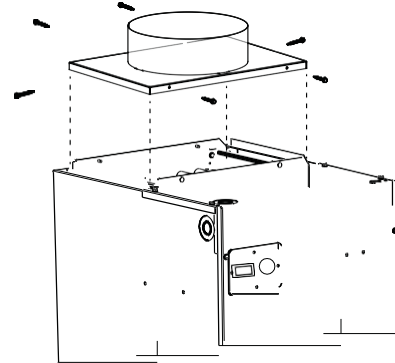

Fig. 3 – Typical Duct Transition Install
4. Use the included screws to attach the round or oval duct transition plate to the top of the unit (Fig. 3). **NOTE:** The transition plate **must** be installed even if the unit is being used as an air scrubber.